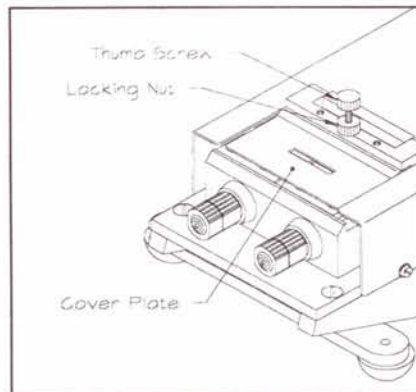

Figure 2
1. Loosen the locking nut securing the thumb screw shown in figure 2.